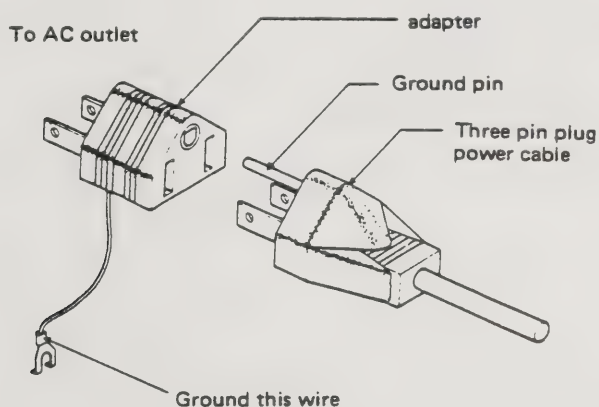

Fig. 2-3 Power cable and plug adapter
- (3) The male power plug at the other end of the power cable has three conductors, the center round conductor being the ground. (See Figure 2-3.)